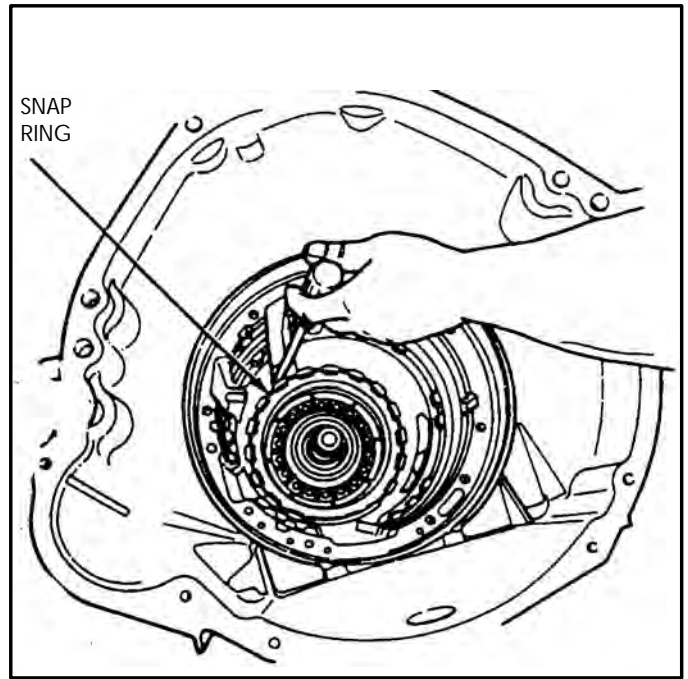

Figure 71
27. Remove the snap ring retaining the low/reverse clutch pack, using a large screwdriver as shown in Figure 71, from the groove in case.